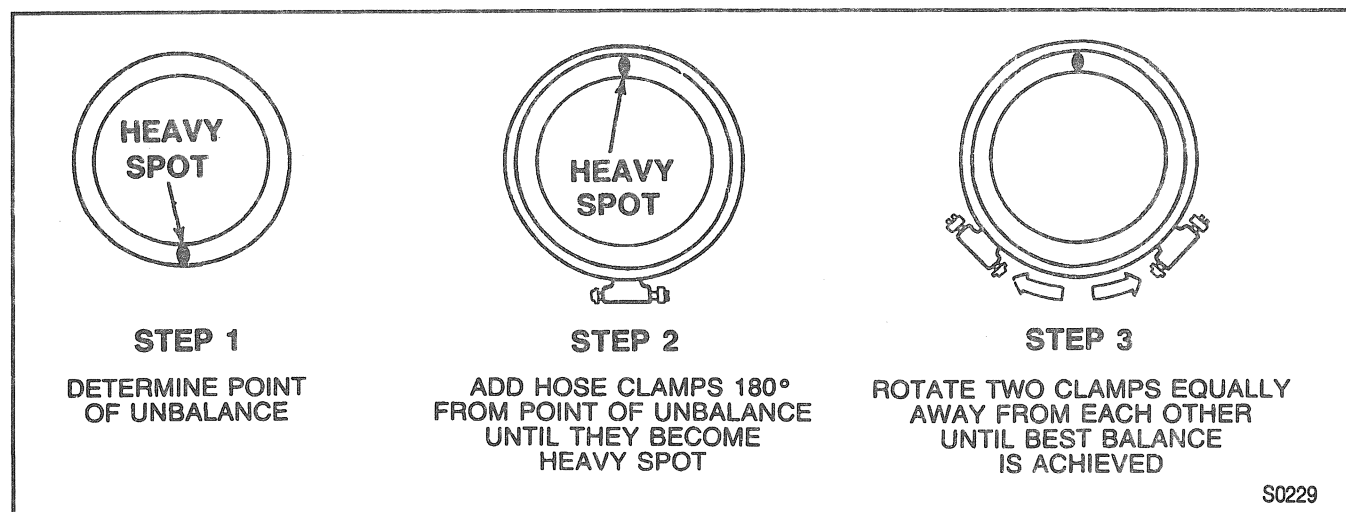

Figure 20—Positioning Hose Clamps to Achieve Best Balance
7. Rotate two of the hose clamps equal distances away from each other toward the top (one on each side of the position) in small increments until the best balance is achieved (Figure 20). In some cas-